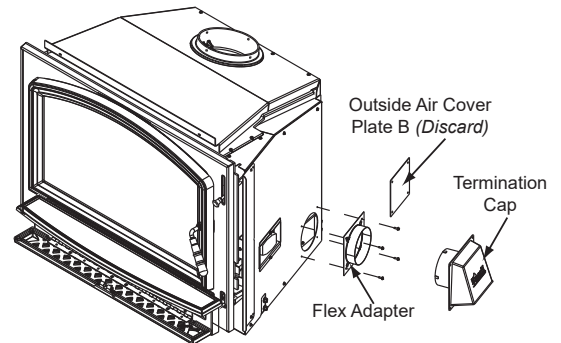

Figure 18.2
5. Remove the outside air cover plate B on outer can and discard **Figure 18.2**.
5. Remove the outside air cover plate B on outer can and discard Figure 18.2.